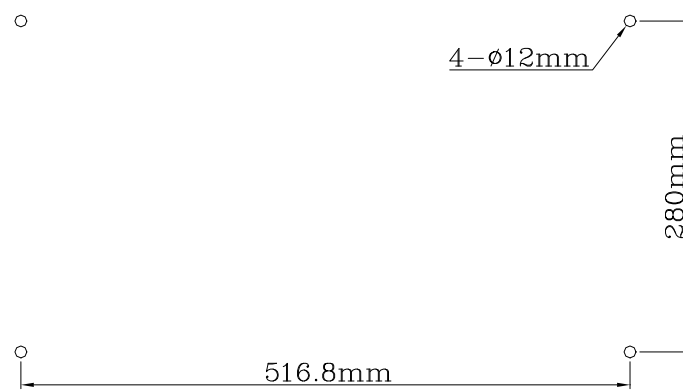

Figure 3.3
Step 1) Open the expansion screw holes on the wall. (the size of the opening hole is Figure 3.3 shown)